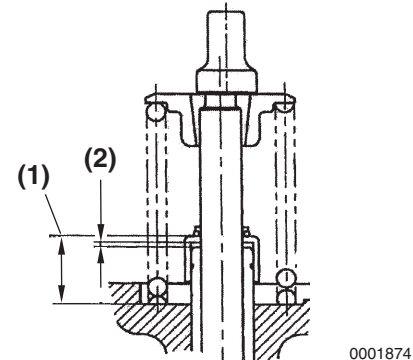

Figure 6-65
- Measure the distance (Figure 6-65, (1)) from the cylinder head to the valve stem seal to ensure proper clearance (Figure 6-65, (2)) between the guide and seal. See *Intake / Exhaust Valve and Guide on page 6-7*.